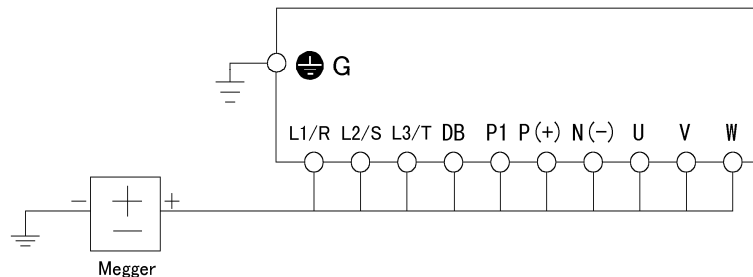

Fig. 7-4-1 Main Circuit Insulation Test
(1) Megger test for the main power circuit.
- c - Connect the main circuit terminals together using common cables as shown in Fig. 7-4-1.